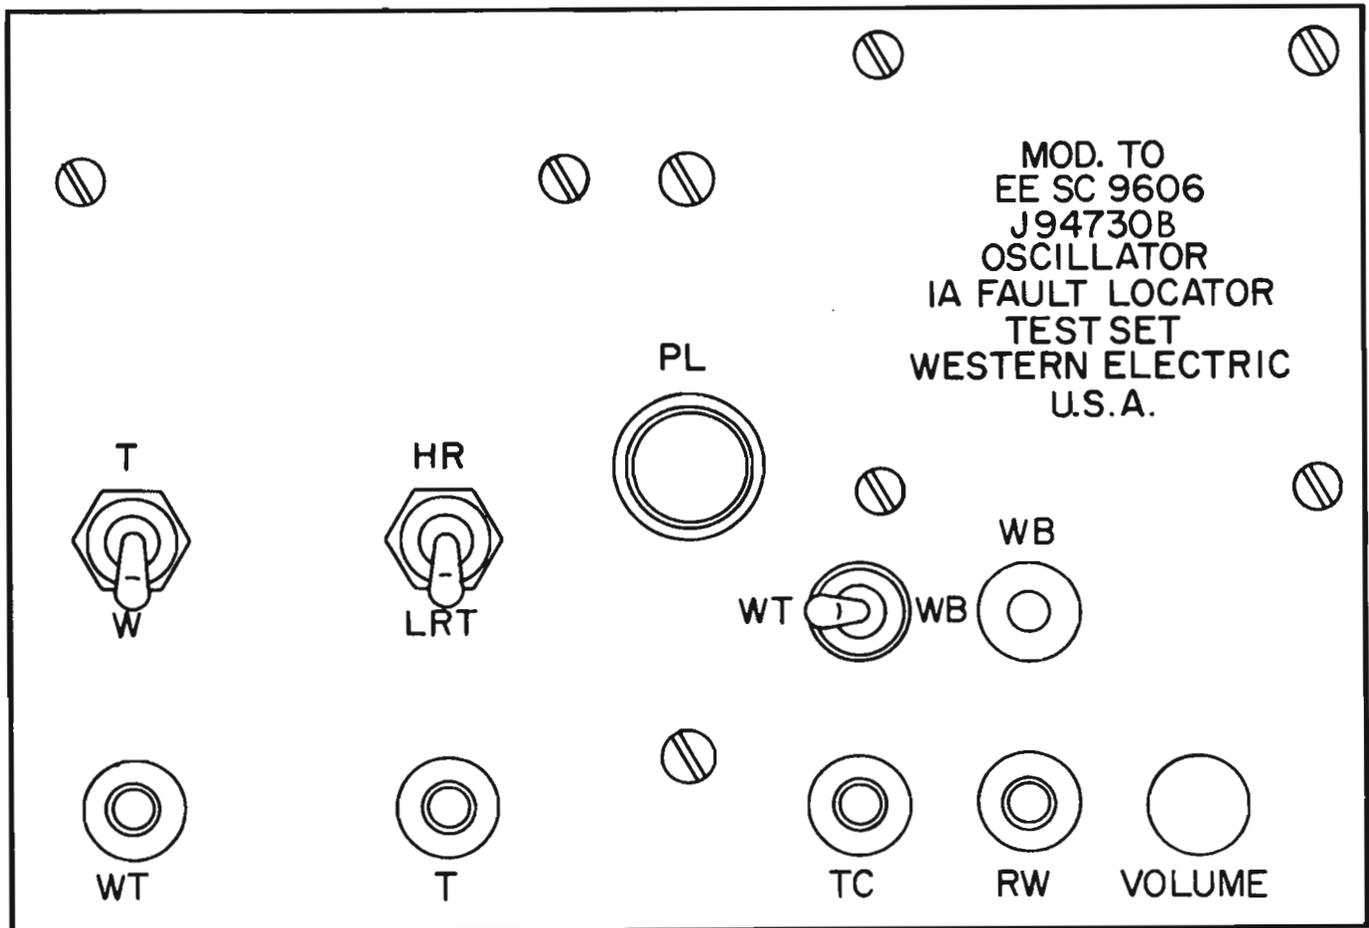

Figure 4. Modified Version J-94730B Oscillator
3.01 The oscillator shown in Figure 4 was modified to arrange the circuit for testing leads (which may or may not be connected to battery or ground) by operating a WT/WB switch. The switch is in the WT position when testing leads not normally connected to battery or ground. The switch is in the WB position when testing leads which are connected to battery or ground.